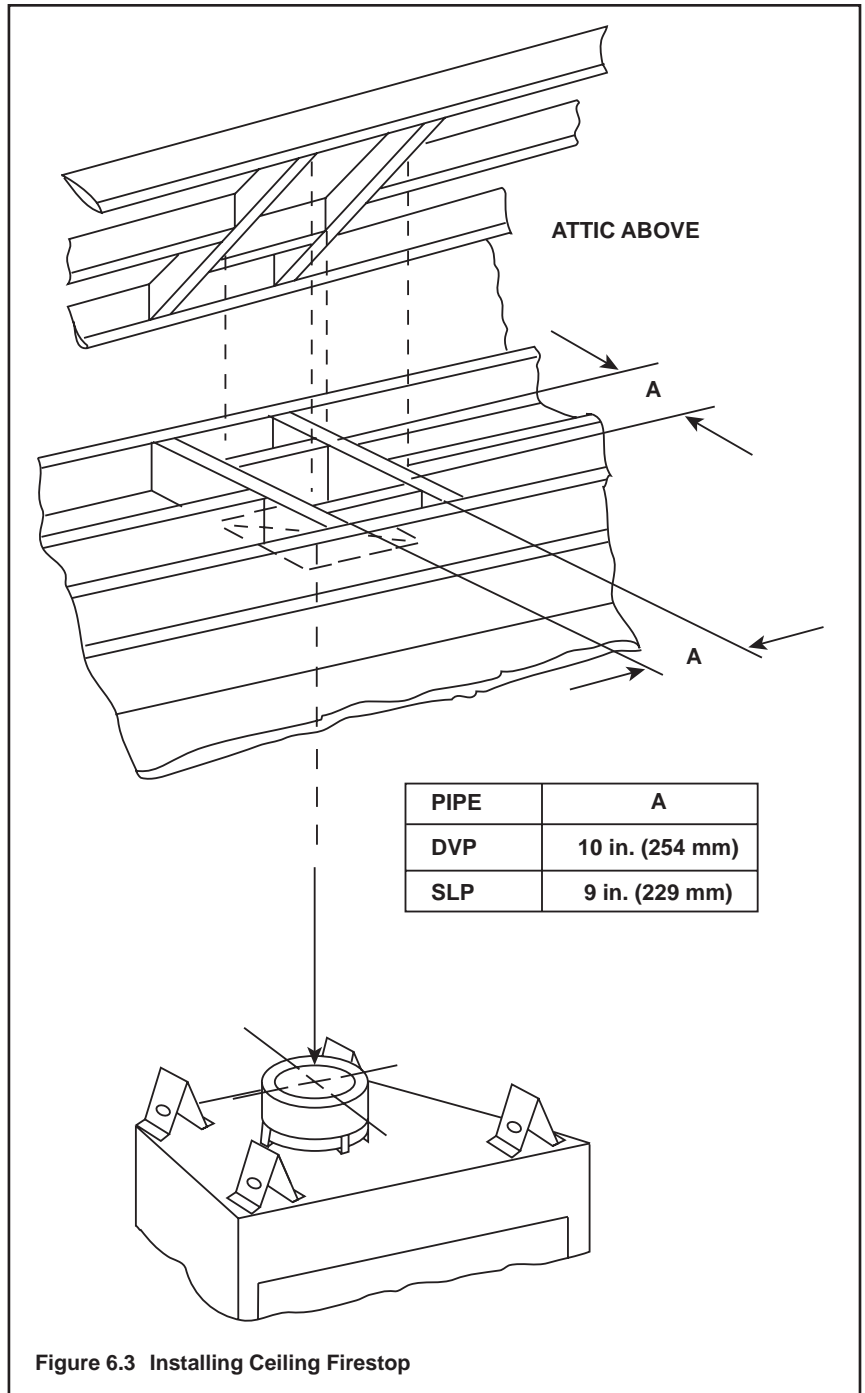

Figure 6.3 Installing Ceiling Firestop
- **DVP pipe only** - Frame an opening 10 in. by 10 in. (254 mm by 254 mm) whenever the vent penetrates a ceiling/floor (see Figure 6.3).
- **SLP pipe only** - Frame opening 9 in. x 9 in. (229 mm x 229 mm) whenever the vent penetrates a ceiling/floor (see Figure 6.3).